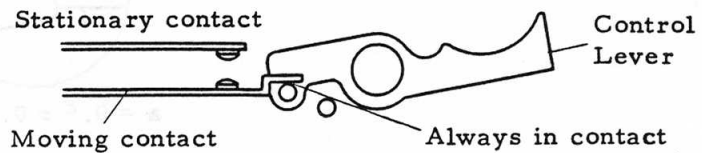

Fig. 15
- 1) The moving contact should always be in contact with the stud of Control Lever (49-0469). (Fig. 15) Make adjustment by bending the moving contact.